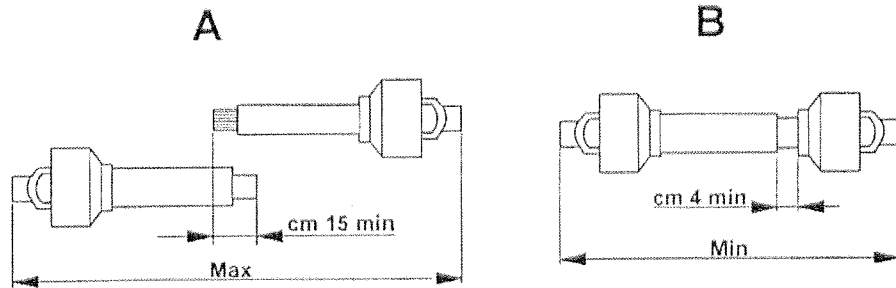

Fig. 16
- When the cardan shaft is fully extended, the two tubes must overlap by at least 15 cm (A Fig. 16). When fully inserted, the minimum play must be 4 cm.